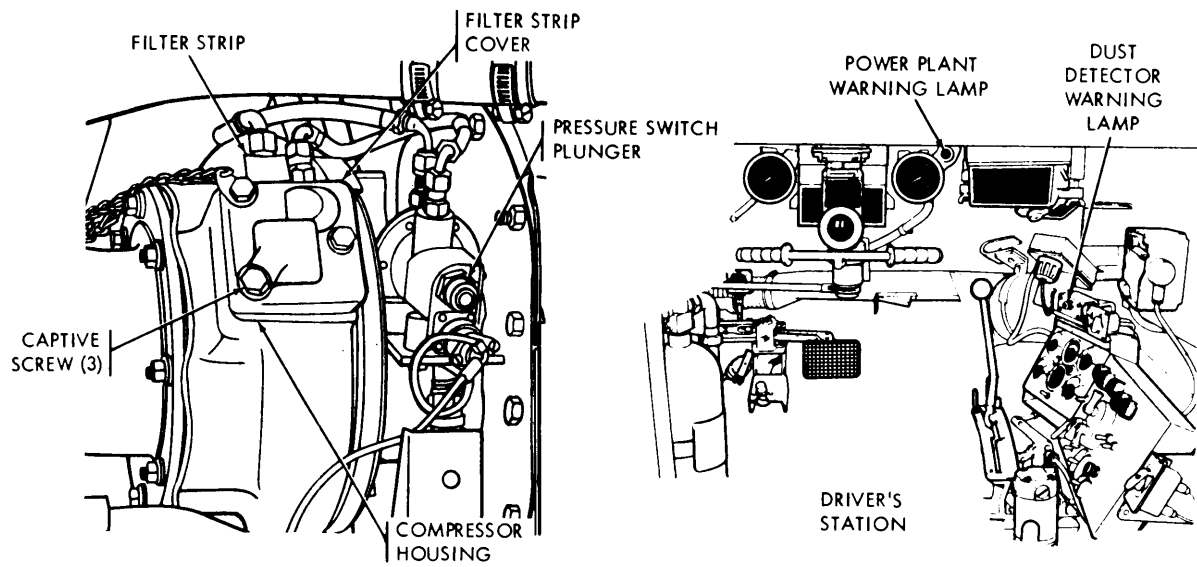

Figure 6-27. Dust detector operational test.
j. Dust Detector Operational Test (Fig. 6-27).